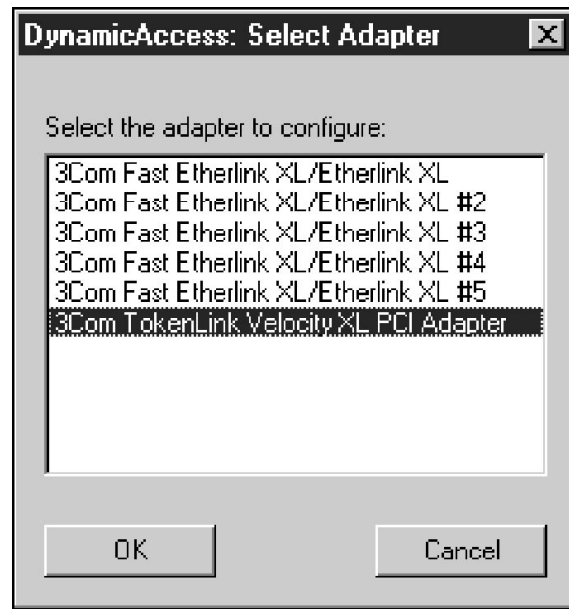

Figure 4-11 DynamicAccess: Select Adapter Window
You can click the Priority button to access the DynamicAccess: Select Adapter window (Figure 4-11) to enable and configure Class of Service. For more information about Class of Service, see "Configuring Class of Service" later in this chapter.
i You can click the Priority button to access the DynamicAccess: Select Adapter window (Figure 4-11) to enable and configure Class of Service. For more information about Class of Service, see "Configuring Class of Service" later in this chapter.
The DynamicAccess: Select Adapter window appears (Figure 4-11).
- 2 **Select 3Com TokenLink Velocity XL PCI Adapter, as shown in Figure 4-11.**